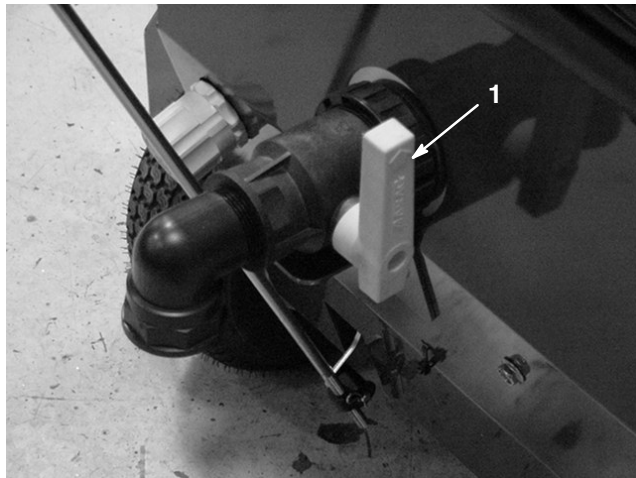

Figure 29
2. Open the paint tank drain valve (Fig. 29). The farther the drain valve is opened the more paint is allowed to drain.